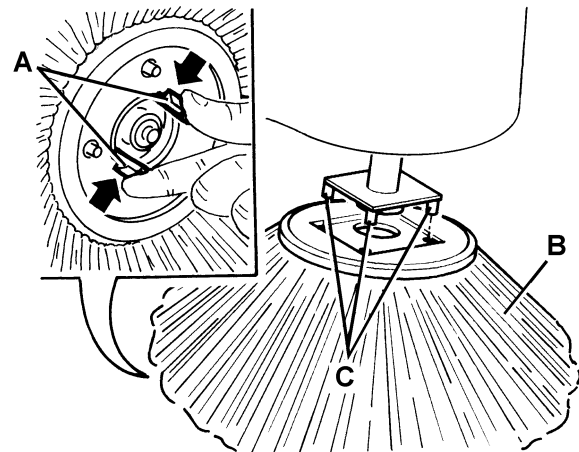

Figure 10
1. Drive the machine on a level floor and press the pedal brake (26), if equipped.
2. Turn the ignition key (61) to "0".
3. Lay the hand inside the side broom and press the tabs (A, Fig. 10) inwards, then remove the broom (B) by disengaging it from the four pins (C).
4. Install the new side broom by engaging it on the pins (C, Fig. 10) and on the tabs (A).